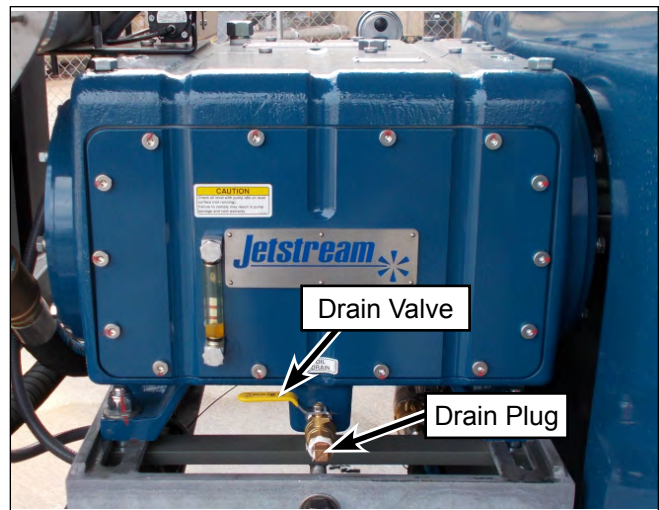

Figure 106: Remove Drain Plug.
1. With the engine off, remove the drain plug (Figure 106) from the oil drain valve located on the back of the power end case.